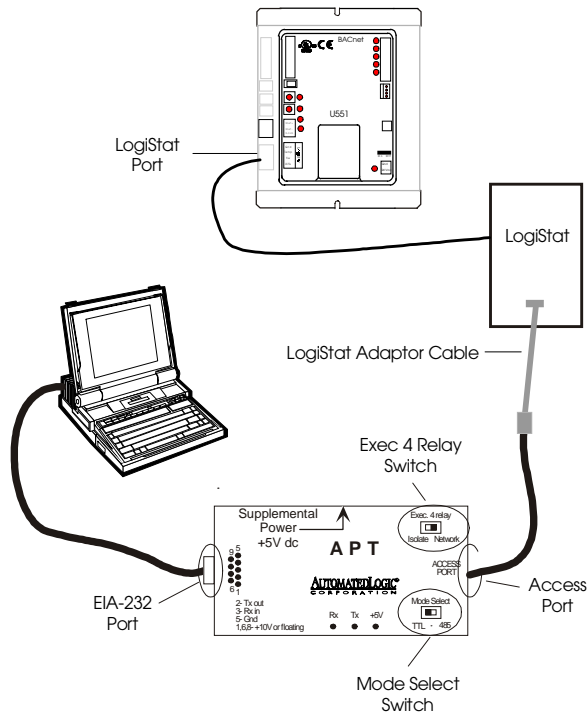

FIGURE 6. USING THE LOGIPORT
2. Set the APT's Mode Select switch to TTL (see Figure 6 on page 7).
If you are using a LogiStat Plus without supplemental power to the APT, make sure the LED on the LogiStat Plus is on indicating that it can provide power to the APT. If the LED is not on, you can provide power to the APT using the Supplemental Power +5V dc connection (see Figure 6 on page 7) and the special power cable to a laptop keyboard jack, or an external supply, such as a 5V dc transformer.